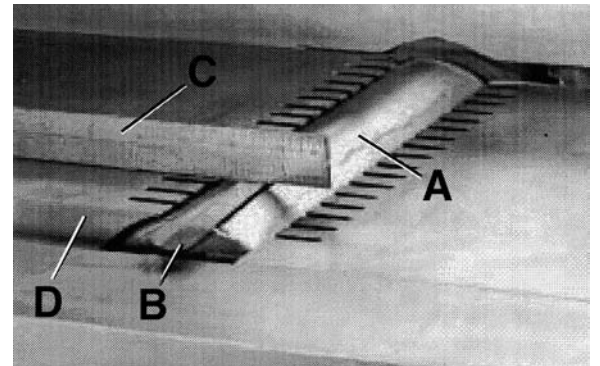

FIGURE 20
1. Carefully rotate the cutterhead (A) Fig. 20 manually until the round portion of the cutterhead is on top.
2. Place a .015" feeler gauge (B) on the cutterhead and using a straight edge (C) on the rear table, adjust the height of the rear table (D), until unit is .015" above the cutterhead diameter.
3. Lock the outfeed table in position and remove the feeler gauge (B).